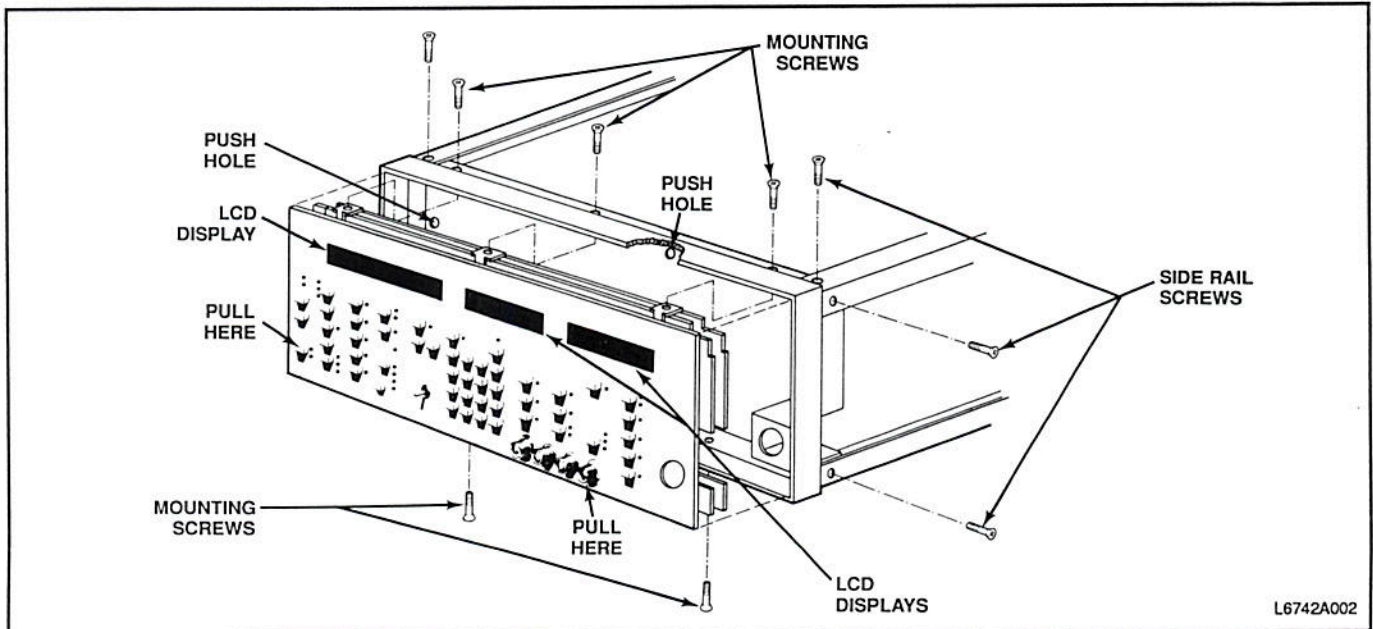

Figure 7-2. Front Panel Assembly and Casting
2. Remove the five mounting screws – three top, two bottom (see Figure 7-2).
If the assembly fit is very tight and is difficult to pull out, push the assembly out from the inside of the instrument. Two holes are provided in the back of the front panel casting (see Figure 7-2). Carefully poke an insulated tool through each hole to gently force the panel assembly free.